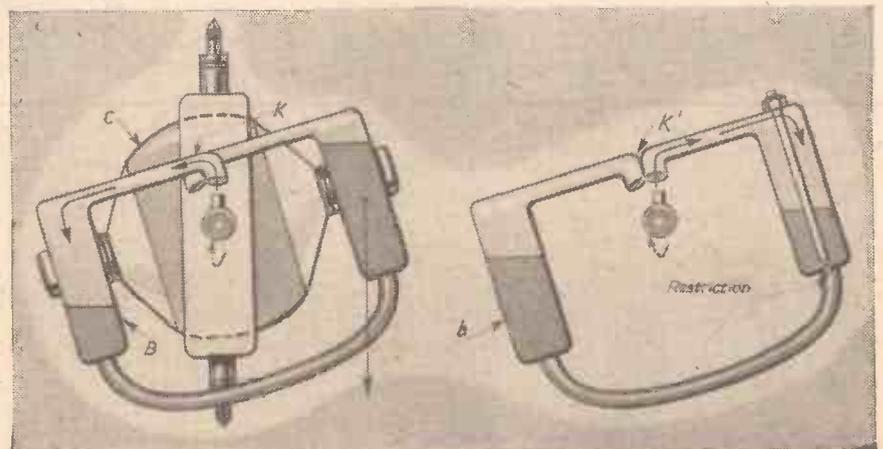

Fig. 8.—Details of the Brown compass.
in practice? Look at a typical compass, the Brown compass, sketched in Fig. 8. The gyroscope itself and driving motor are contained in the casing (c) which is held in gimbals. On either side of the case there are respectively the working bottles (B) and the damping bottles (b). The tops of both sets of bottles are connected to air chests (k) and (k'), both of which are directly over vertical air jets (j).